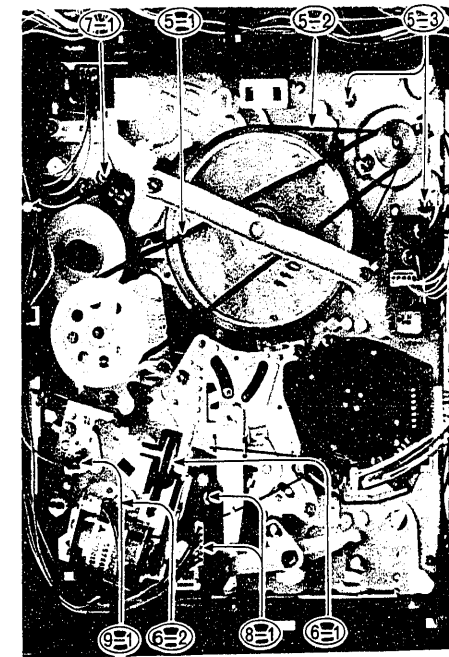

Fig. 28 Capstan Motor, Loading Motor, Reel Sensor, Mechanism State Switch, Safety Tab Switch
5. Capstan Motor (Fig. 28)
6. Loading Motor (Fig. 28)
7. Reel Sensor (Fig. 28)
8. Eject Slider and Eject Hold Arm Removal (Fig. 28)
9. Mechanism State Switch (Fig. 28)
10. Safety Tab Switch (Fig. 28)